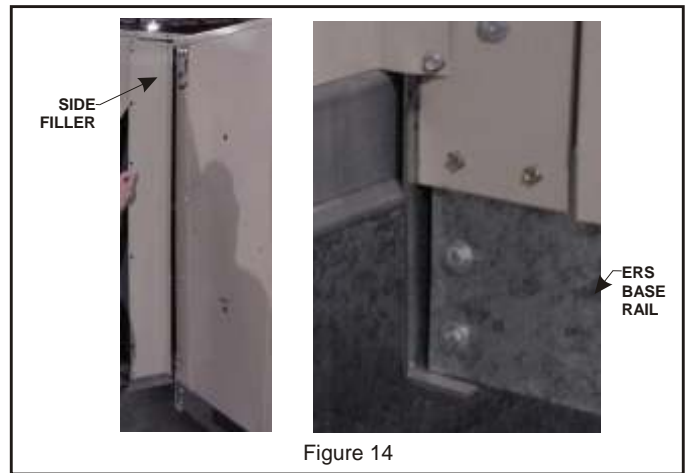

Figure 14
- Lower ERS into ERS support rail catching the front edge of the ERS bottom into the 1/2" flange. Tuck the front top flange of ERS under the rooftop unit top panel. Slide the ERS so that it is tight against the side filler. Now secure unit top and side filler to the ERS. **See Figures 14.**